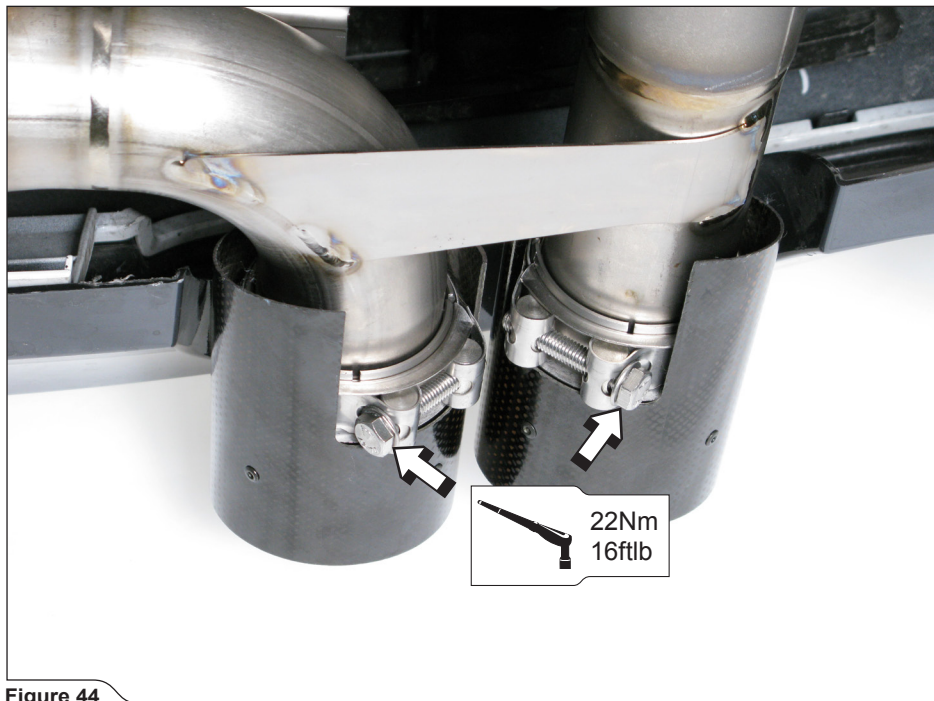

Figure 44
23. **For Slip-On:** tighten tail pipe clamps to the specified torque on both sides of the vehicle (Figure 44).